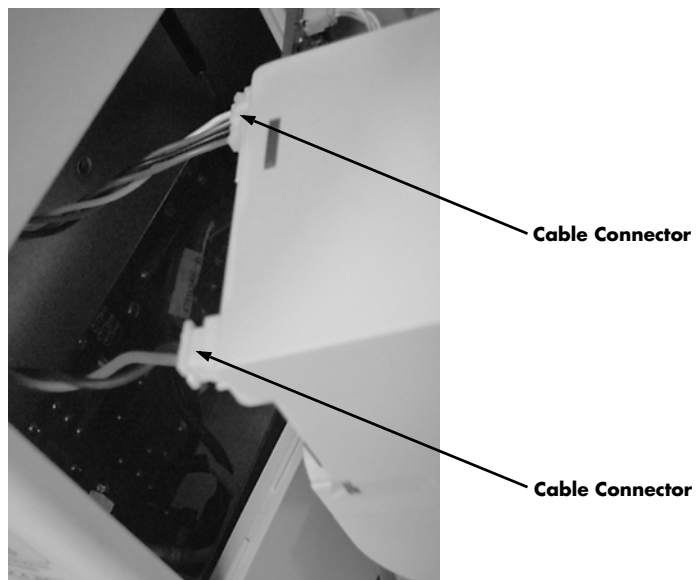

FIGURE 4-13 Unplug two (2) cable connectors.
3. Unplug the two (2) cable connectors (as shown in Figure 4-13) from the recorder.